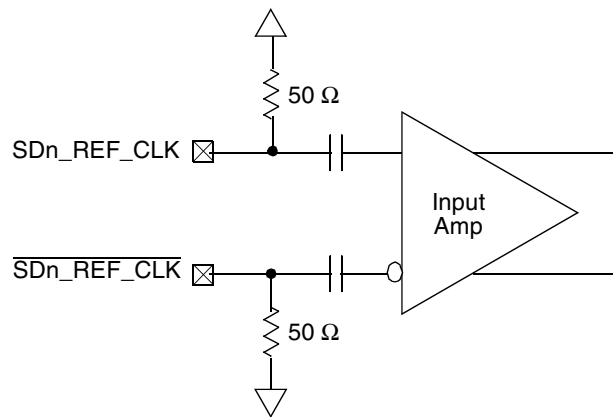

Figure 58. Receiver of SerDes Reference Clocks
Figure 58 shows a receiver reference diagram of the SerDes reference clocks.
- The SDn_REF_CLK and $\overline{SDn_REF_CLK}$ are internally AC-coupled differential inputs as shown in Figure 58. Each differential clock input (SDn_REF_CLK or $\overline{SDn_REF_CLK}$) has a $50\text{-}\Omega$ termination to SGND (xcorevss) followed by on-chip AC-coupling.